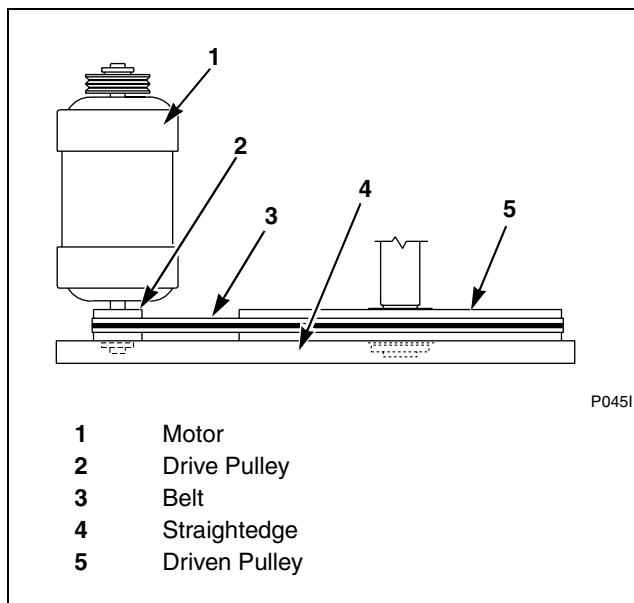

Figure 26
- c. Verify that V-belts are properly aligned by checking pulley alignment. Place a straightedge across both pulley faces. The straightedge should make contact with the pulleys in four places. Refer to *Figure 26*.